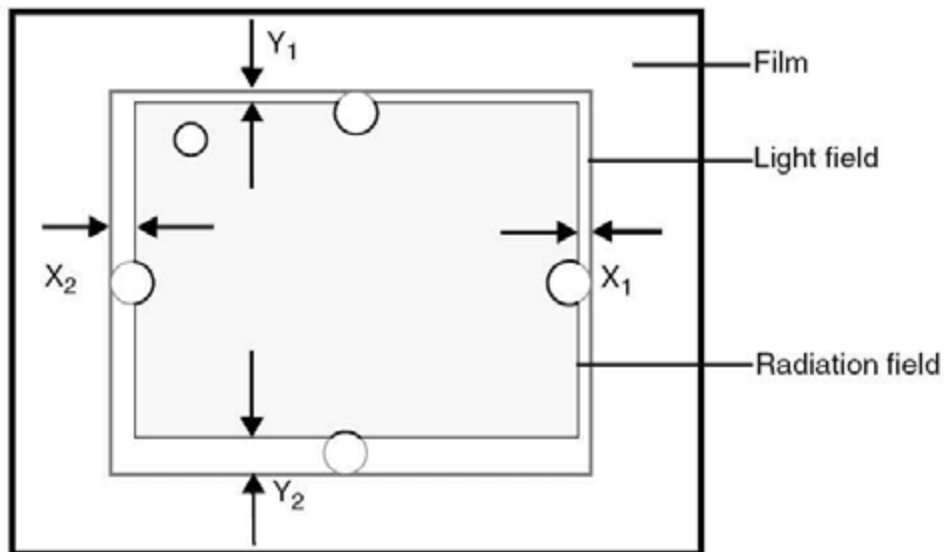

Fig. 35: Deviations
- Measure the deviations (X1, X2, Y1, Y2) between the edges of the light field and the radiation field on all four sides, corresponding to (Fig. 35 / p. 88).